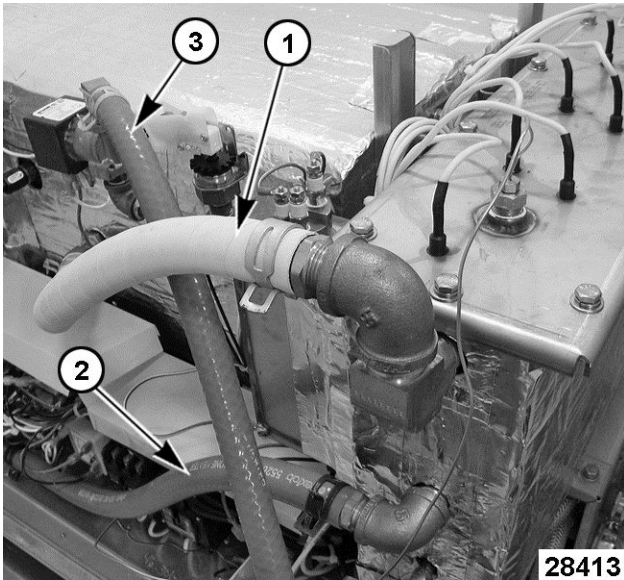

Fig. 87
8. Disconnect steam outlet hose [1] Fig. 87 from steam generator tank.
9. Remove delime hose [2] Fig. 87 from steam generator tank.
10. Remove hose [3] Fig. 87 from the vacuum relief solenoid.